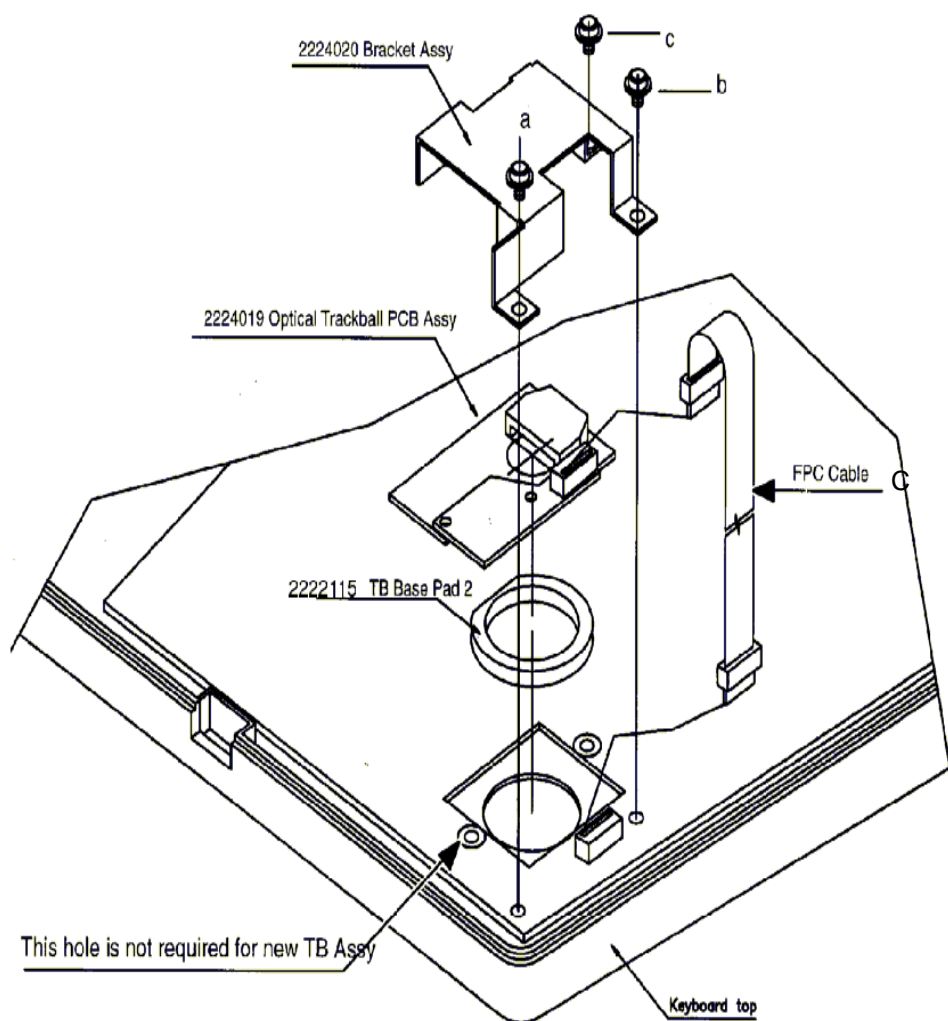

Figure 8-5 Optical Trackball Assembly for V 5.0& below
- 1.) Assemble TB Base Pad2 2222115. Refer Figure 8-5
- 2.) Assemble Optical Trackball PCB Assembly 2224019 refer Figure 8-5
- 4.) Assemble Trackball bracket assembly 2224020 refer Figure 8-5
- 6.) Fix the FPC cable 2139504 (C) as shown in Figure 8-5